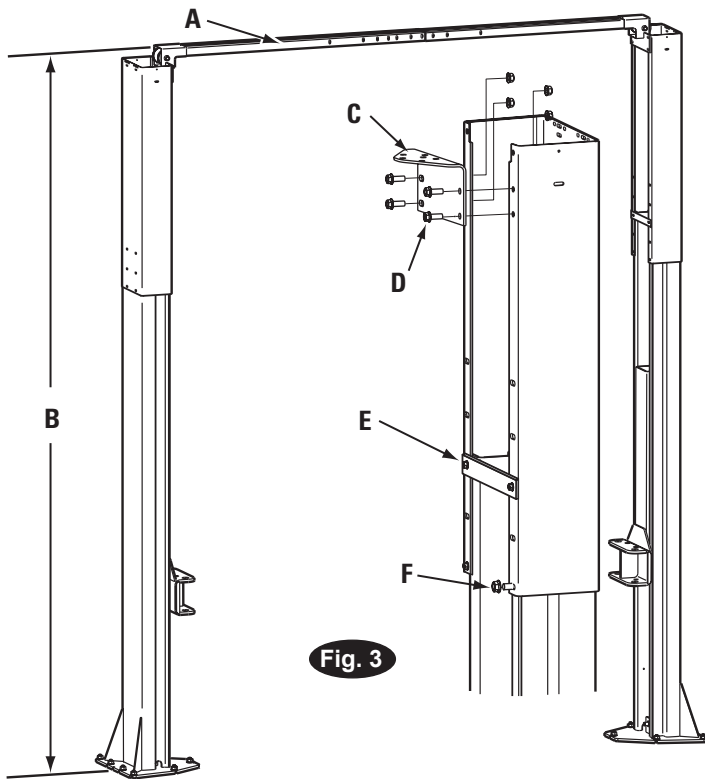

Fig. 3 Detail
2. Lift Height: See Fig. 3 for overall lift height of each specific lift model. Add 25mm to overall height to lowest obstruction.
4. Column Extensions: Install the column extensions as shown, Fig. 5 & 5a. Install Tie Bar as shown, Fig. 3.
Overhead Mounting Bracket: Install Mounting Brackets to column extensions, Fig. 3.